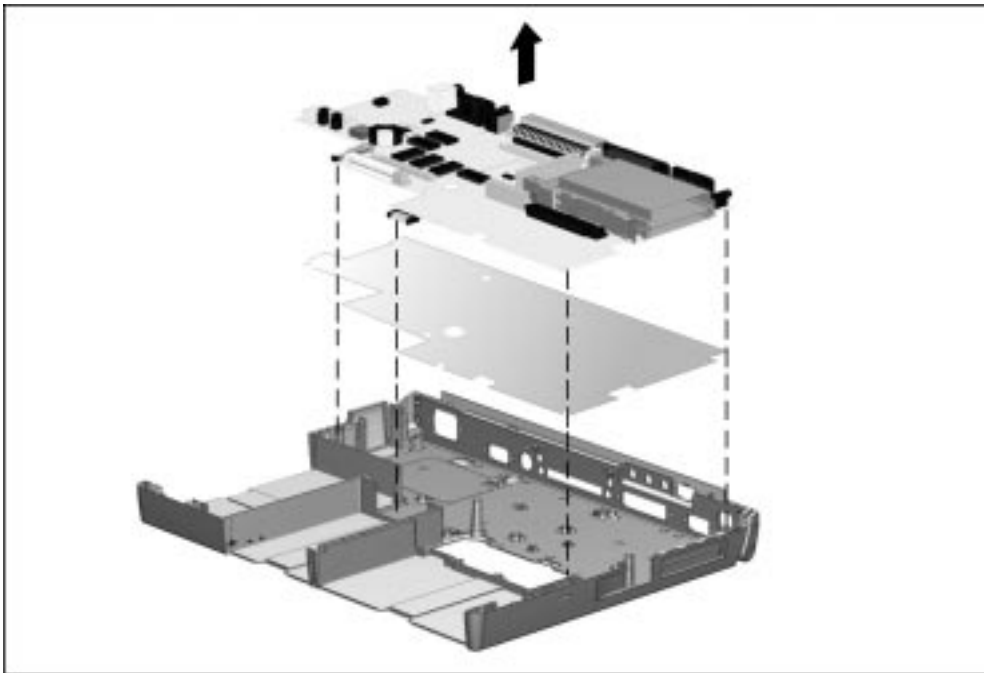

Figure 5-79. *Removing the System Board and Insulator*
25. Lift the front of the system board. When the front edge of the system board clears the base assembly, lift the system board out of the base assembly (Figure 5-79).